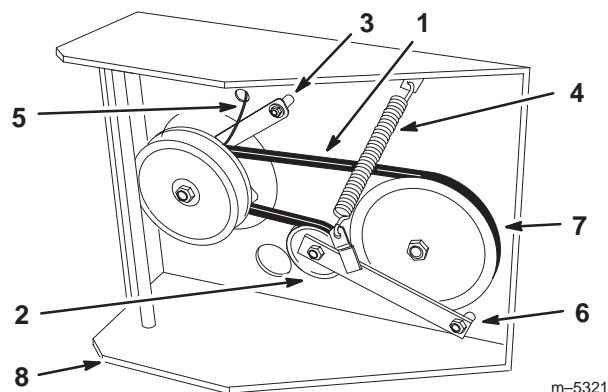

Figure 62
6. Disconnect clutch retainer from the engine deck (Fig. 62).
7. Unhook tension spring from side of frame (Fig. 62).
10. Torque pivot bolt to 35-40 ft-lb (47-54 N•m). Install tension spring between idler arm and frame bracket (Fig. 62).
11. Install clutch retainer to the engine deck (Fig. 62).